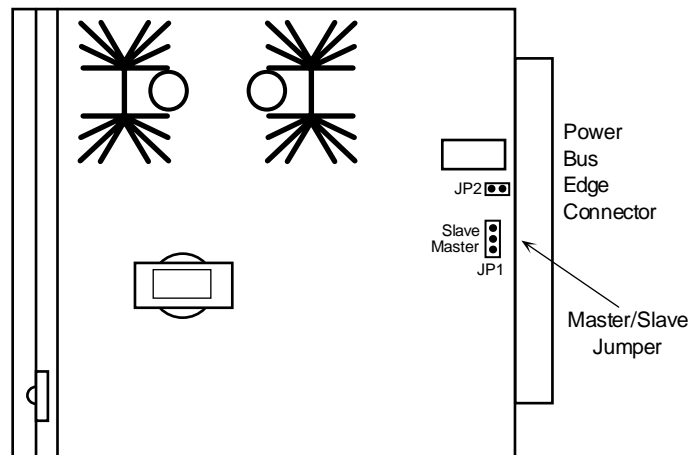

Figure 2-7. 105V Ringing Generator Jumper Setting
2. Make sure jumper W201 is installed if this is the only ringing generator in the unit, if it is the MASTER ringing generator, refer to Figure 2-7. If this is a SLAVE ringing generator, cut jumper W201 with wire cutters.